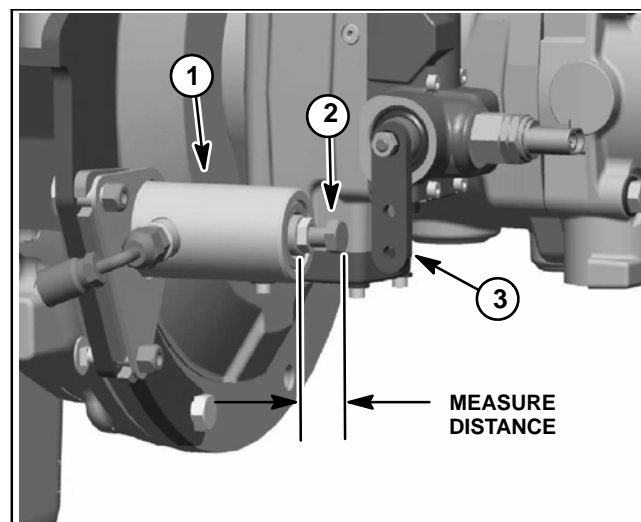

Figure 67
6. If cap screw is to be removed from piston, carefully measure the distance from the piston to the end of the cap screw before loosening the jam nut (Fig. 67). This distance will be necessary for assembly.
2. If the cap screw was removed from the piston, make sure that distance from the piston to the end of the cap screw is the same as the distance measured before disassembly (Fig. 67).